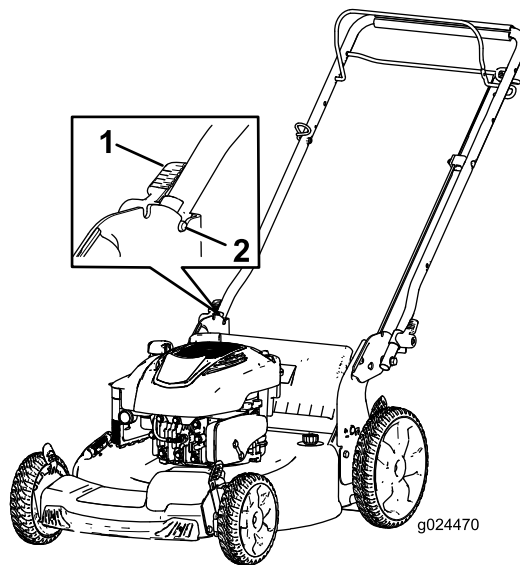

Figure 4
2. Set the handle lock (Figure 4) until the pin clicks in place to lock the handle into the operating position.